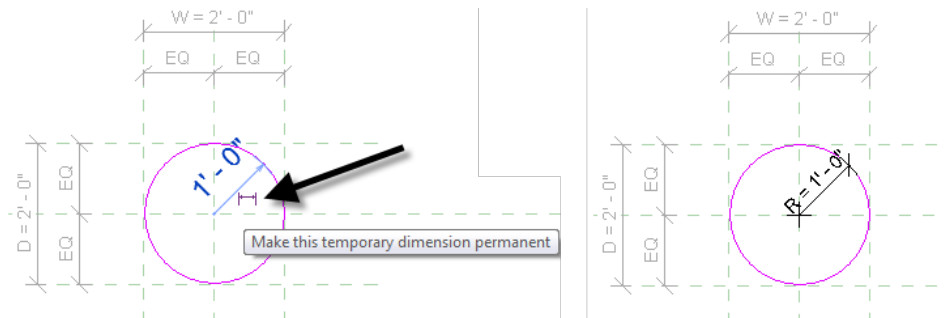

Figure 6—Create the dimension and a radius parameter
9. Label this dimension with a new parameter and call it: **R** (see Figure 6).